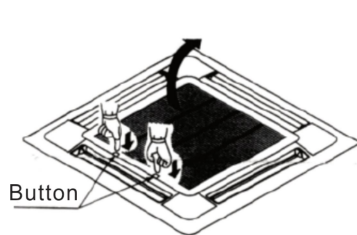

Figure 1
- 1) Press down the button of wind grill, and then lift one end of the button. (Refer to Figure 1)